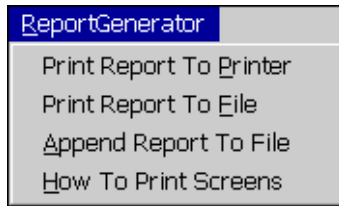

Figure 3-20 Tutorial Report Generator Pulldown Menu
64. Access the hardcopy report generator by clicking on **Report Generator** in the menu bar. The pulldown menu shown in Figure 3-20 will appear.